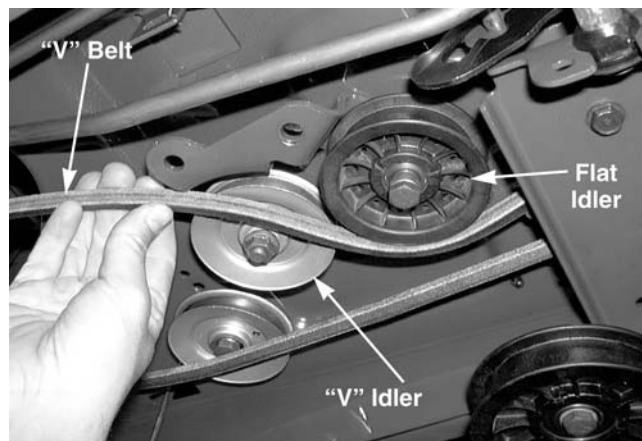

Figure 9-42
7. Roll the "V" belt out of both the "V" idler and the flat idler on the double idler bracket assembly. See Figure 9-42.